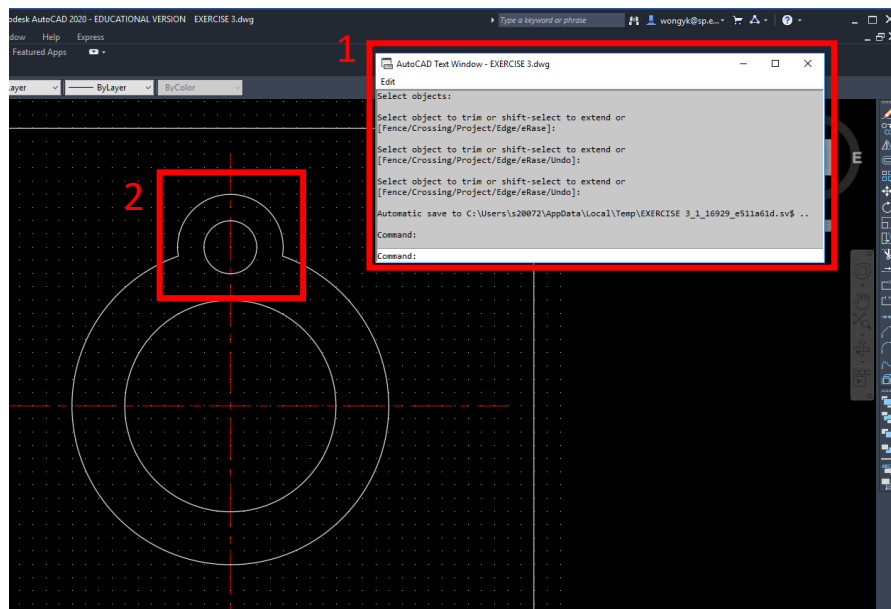

Fig 24
- xvi. Fig 24 shows the steps **(1)** and end result of trim on the inner & outer ring bolts **(2)**